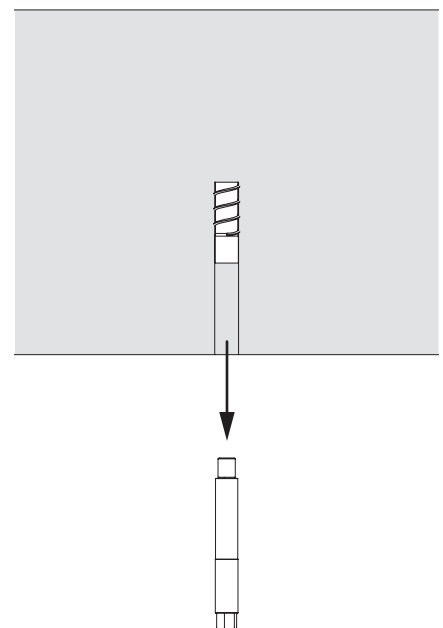

Fig. A5.18
1. Screw out Connection Bolt M16/ M24 x 50 (51) after use. (Fig. A5.18)